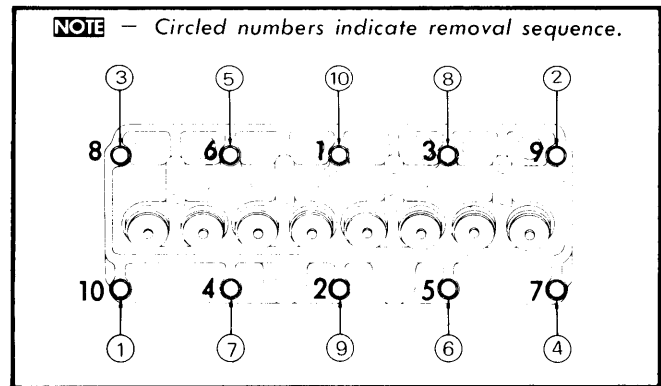

Fig. 1 Tighten Cylinder Head in Sequence Shown (Remove in Reverse Order ① Through ⑩)
2) Remove bolts and shaft assembly. Remove push rods and keep in order for reassembly in original position. Disconnect spark plug wires. Loosen and remove head bolts in 2 or 3 steps as shown in Fig. 1. Lift head from engine.
Installation — Ensure that mating surfaces are clean, then install new gasket with "front" side facing up. Continue assembly in reverse order of removal. Tighten head bolts gradually in 2 or 3 steps as shown in Fig. 1. Install push rods and rocker shaft assembly, then adjust valves.